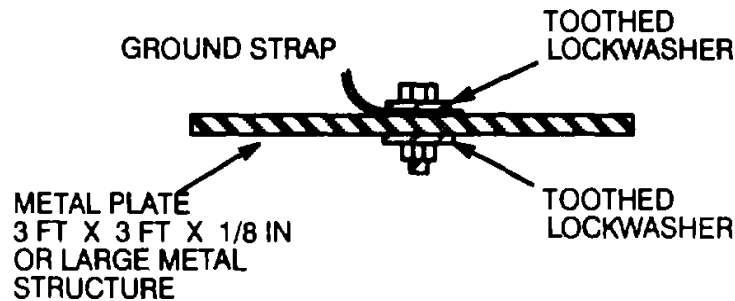

Figure 2-2.
(1) In the desert, the MK-2551A/U should work as well as a ground rod unless the sand is very loose. If the stakes of the MK-2551A/U are not secured well in the sand and are very loose, a ground rod or a ground plate may work better.
(2) To construct a ground plate, use a clean bare metal plate or sheet at least 3 feet square and at least 1/8 inch thick. Select a metal bolt nut and lock washer, then drill a hole in the center of the plate just large enough for the bolt. Fasten a ground strap to the plate as shown in figure 2-2. Make sure the connection is clean and tight. Bury the plate at least four feet underground. Apply salt and water as described in paragraph 2-3 1.